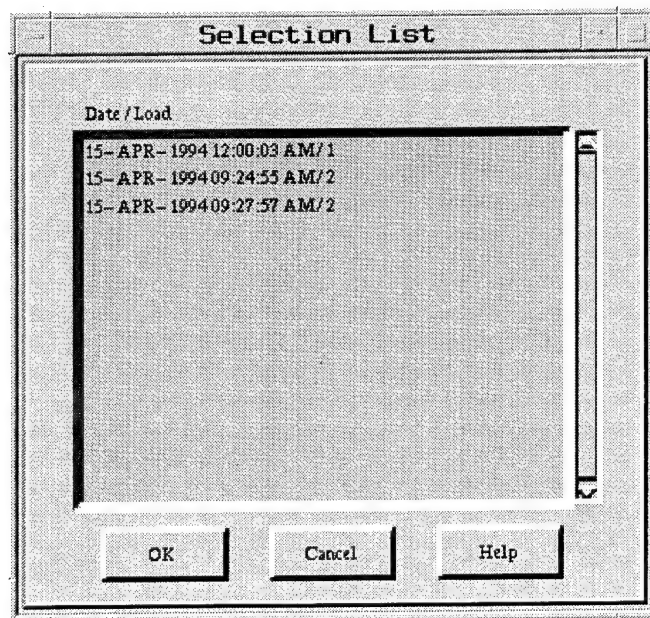

Figure 51. Trip start time/load number **Selection List** screen
- If data are plotted for a selected load, click on the **pull-down** button to the right of the **Load No.** box, and the list of loads will appear (Figure 51).